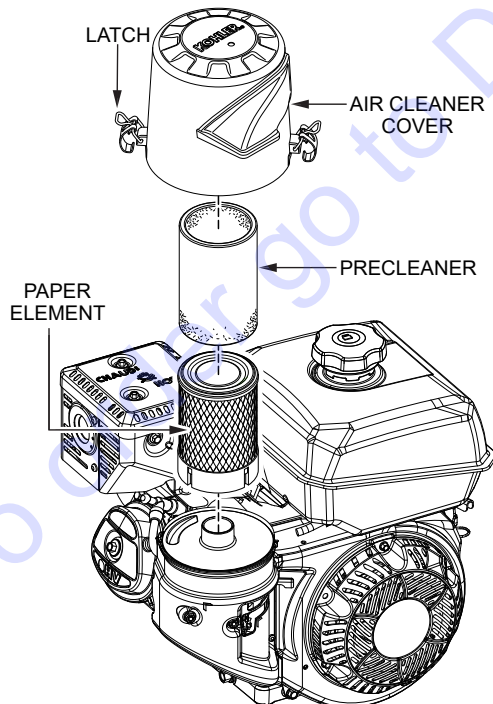

Figure 29. Engine Air Cleaner (Quad-Clean)
1. To remove the air cleaner cover from the base, pull down on the locking latches as referenced in Figure 29.
1. Remove pre-cleaner (foam filter element) as shown in Figure 29.